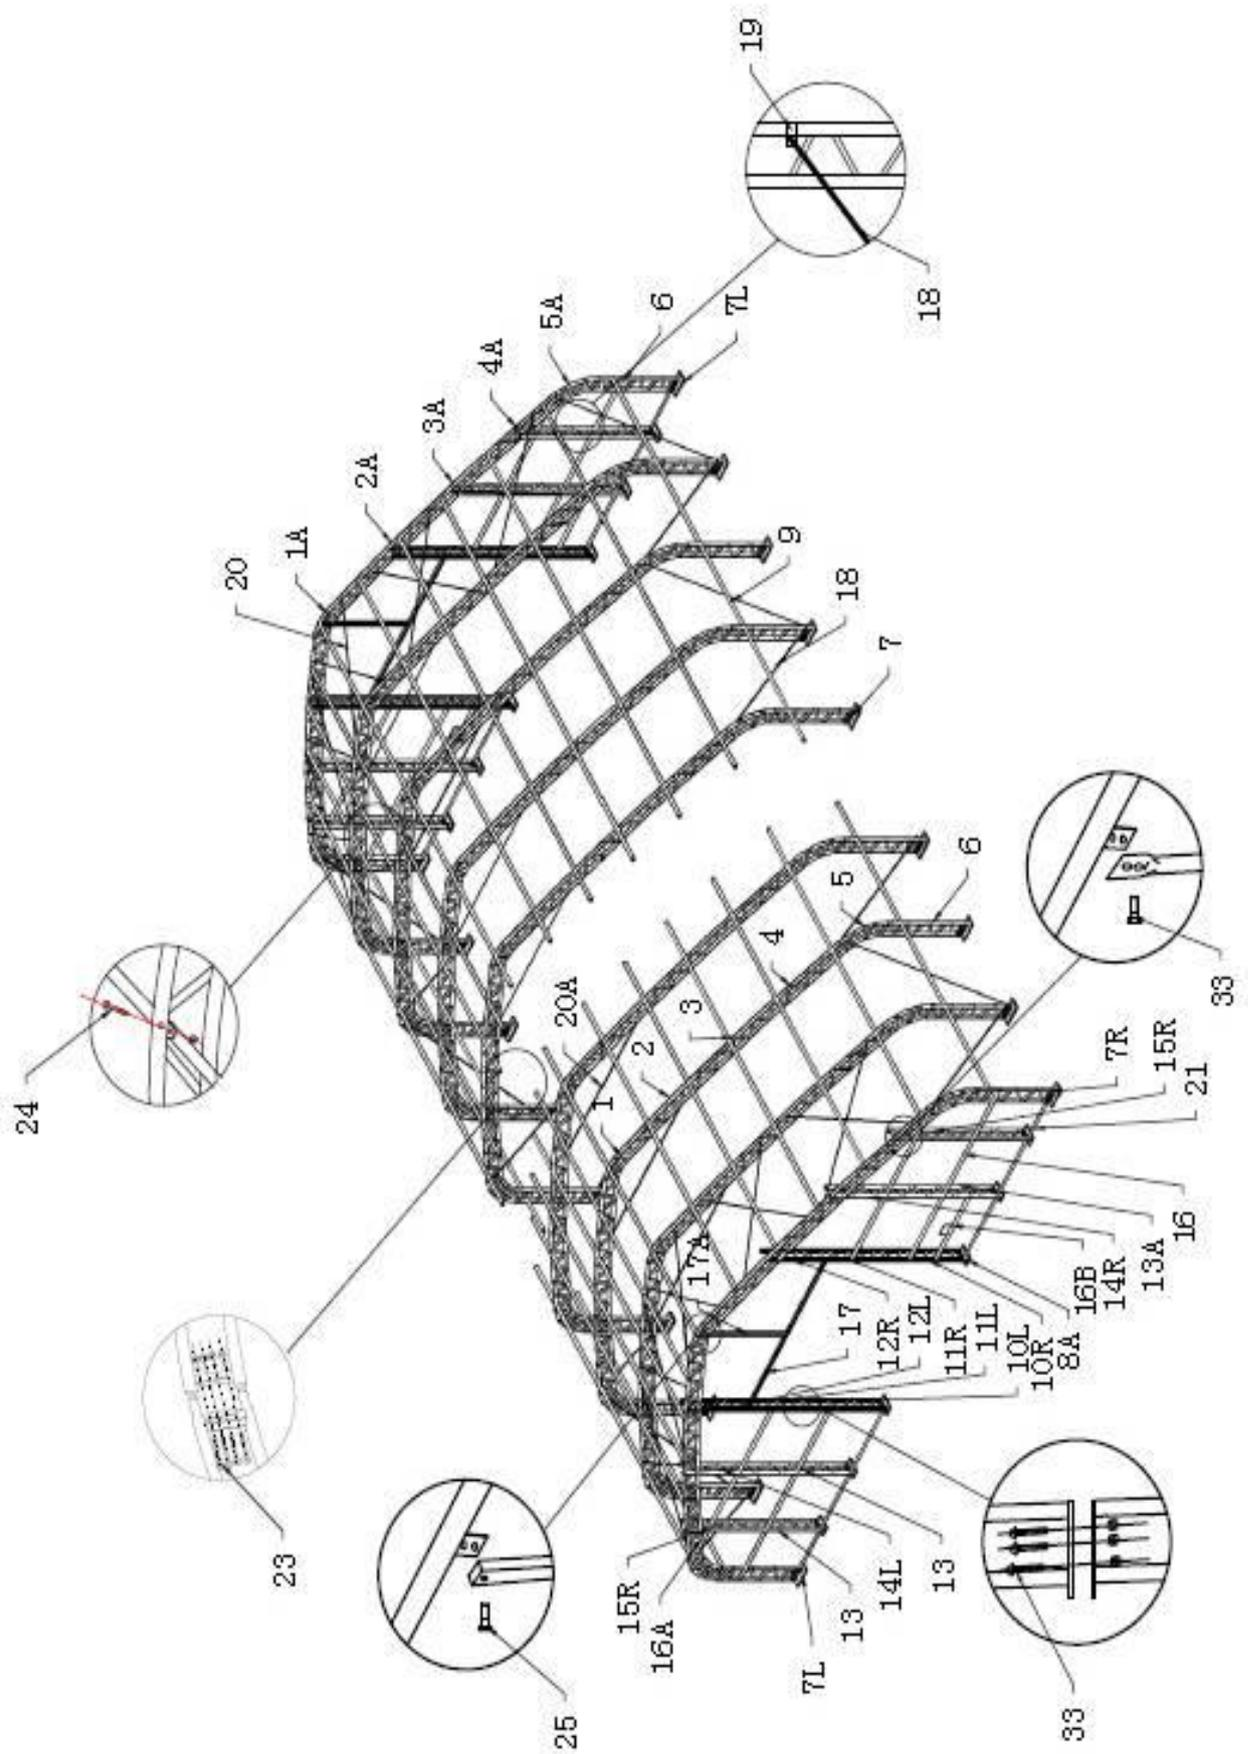

Figure 1: Sketch of trussed frame
2. Connect Purlin(No.9) to arch by using Bolt 12x100(No.24) by turns(see Figure 4),then connect the Steel wire(No.18 and No.20) on top and side by using Clip(No.19)(see Figure 1)